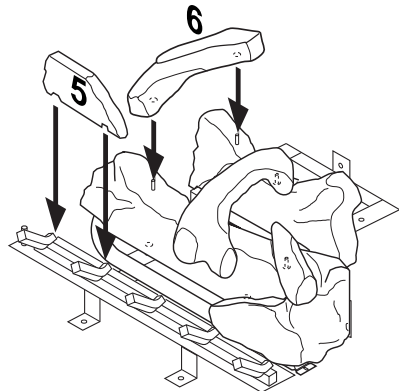

Figure 45 - Installing Logs No. 5 and No. 6
5. Place log #5 (base log) onto front left part of grate making sure notches fit over prongs of grate. See Figure 45.
6. Place log #6 (left log) onto two pins on left side of back and front log. See Figure 45.